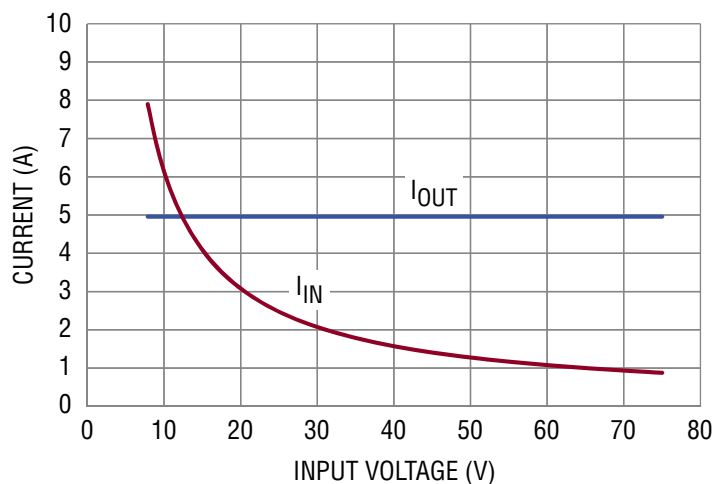

Figure 2. Input Current at Full Load (12V at 5A Output)
2. Set the current limit of the input supply high enough so that the bench supply does not go into current limit mode. Figure 2 shows input current as a function of input voltage, at full load. Input current can reach 8A at 8V input voltage.